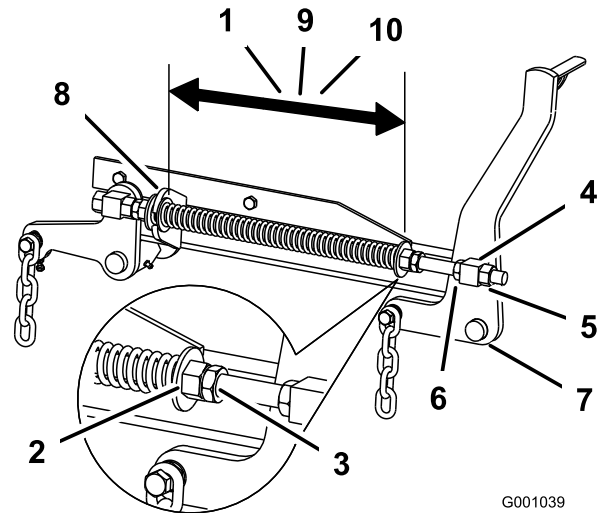

Figure 113
2. Check the distance between the 2 large washers, it needs to be 28.2 cm (11-1/8 inches) for 52-inch mower decks, 26.7 cm (10-1/2 inches) for 60-inch mower decks, or 29.2 cm (11-1/2 inches) for 72-inch mower decks (Figure 113).
3. Adjust this distance, by loosening the spring-jam nut and turning the nut in front of each spring (Figure 113).
4. Lock the nut into position by tightening the spring-jam nut (Figure 113).